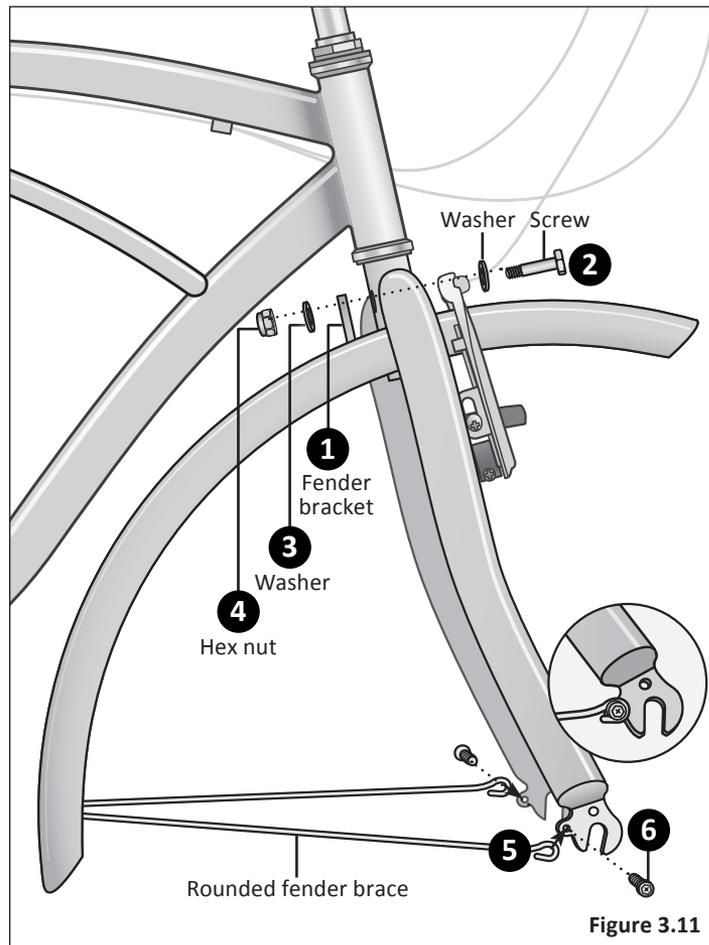

Figure 3.11
- 1 Position the front fender so the fender bracket is on the inside of the frame. The fender is attached to the fork crown. Align the hole in the bracket to the hole in the fork crown. **Figure 3.11**